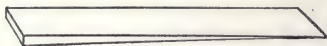

FIG. 37.
**84. Applications of the Inclined Plane.**—The wedge is a movable inclined plane that in various modifications serves for many different purposes. In the form of a stake wedge, as shown in Fig. 37, it serves to